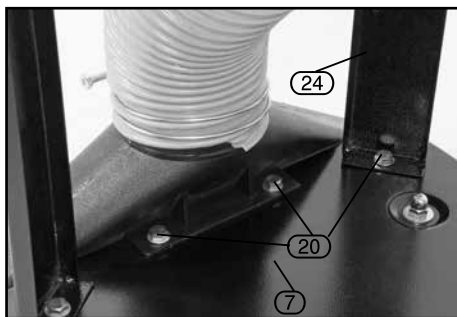

FIG. 5
8.4 ASSEMBLY TO BASE – FIG. 5
Secure the floor attachment to the base (7) with the remaining (M8 x 10mm) bolts (20) (as shown in fig. 5).